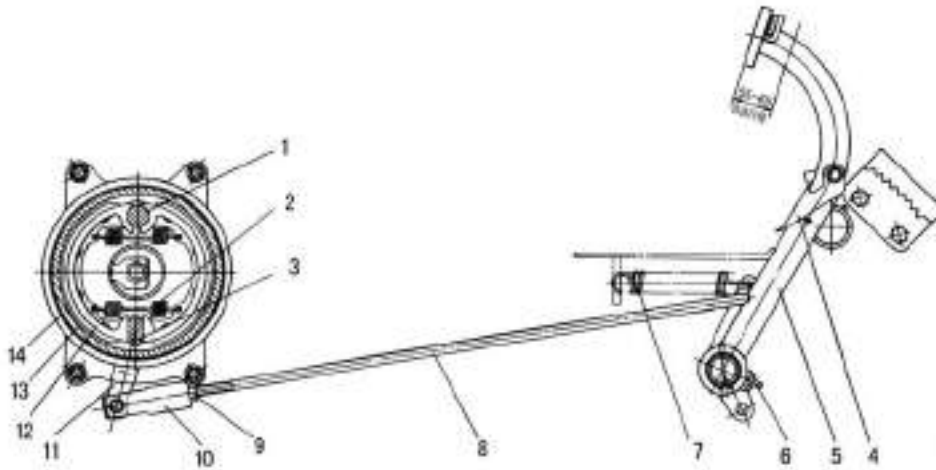

Fig.4-5 Block brake
A. Free travel adjustment of brake pedal is the displacement measured from the highest position of the pedal, when resistance is felt by pressing the pedal. The travel should be in the range of 55-65 mm (Fig.4-5). During adjustment, firstly loosen the locking nut (9) on brake pull rod (8) and change the length of the brake pull rod, then press the brake pedal (5) from its highest position until the displacement is 55-65 mm and the gap between brake drum (13) and brake shoe (12) is eliminated. Make the left and right brake pull rod adjustment be identical, then tighten them with locking nut (9) (Fig.4-5).